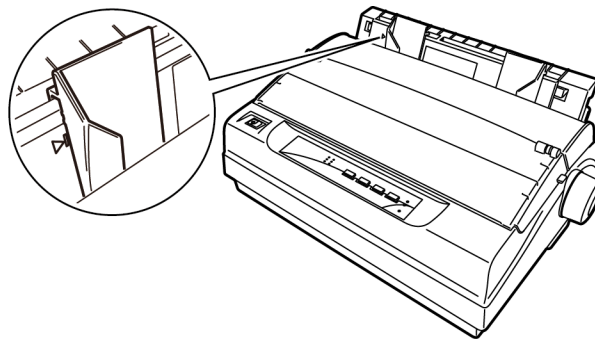

Figure 3-4 Adjust the paper guide
4. Slide the left edge guide until it reaches the triangular guide mark. Next, adjust the right edge guide to match the width of your paper. (As shown in figure 3-4)